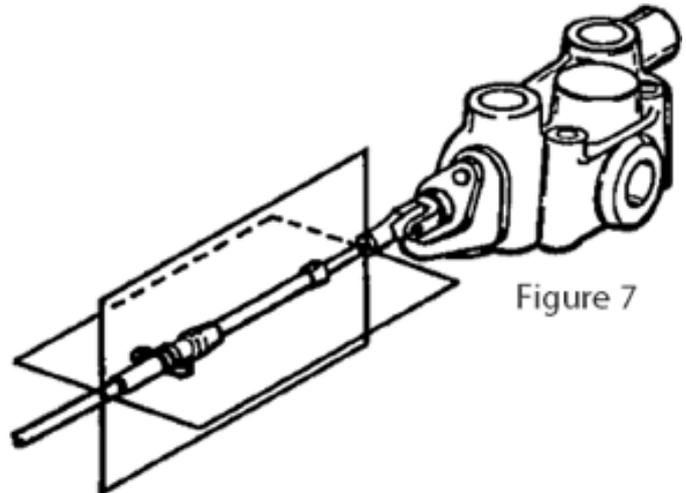

Figure 7
1. a. Where cable ends are to be connected to objects requiring linear movement only (such as valve spools, etc.) Maximum life and efficiency can be achieved by accurately aligning in both planes, the cable hubs with the objects to be controlled. See Figure 7.